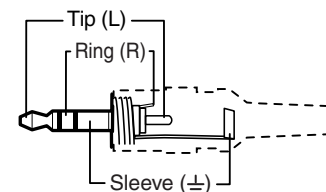

Figure 2-17 — Audio input wiring
- 2 **Audio input connector** — Connect PC audio to this 3.5 mm, stereo jack. Wire the male plug as shown in figure 2-17.